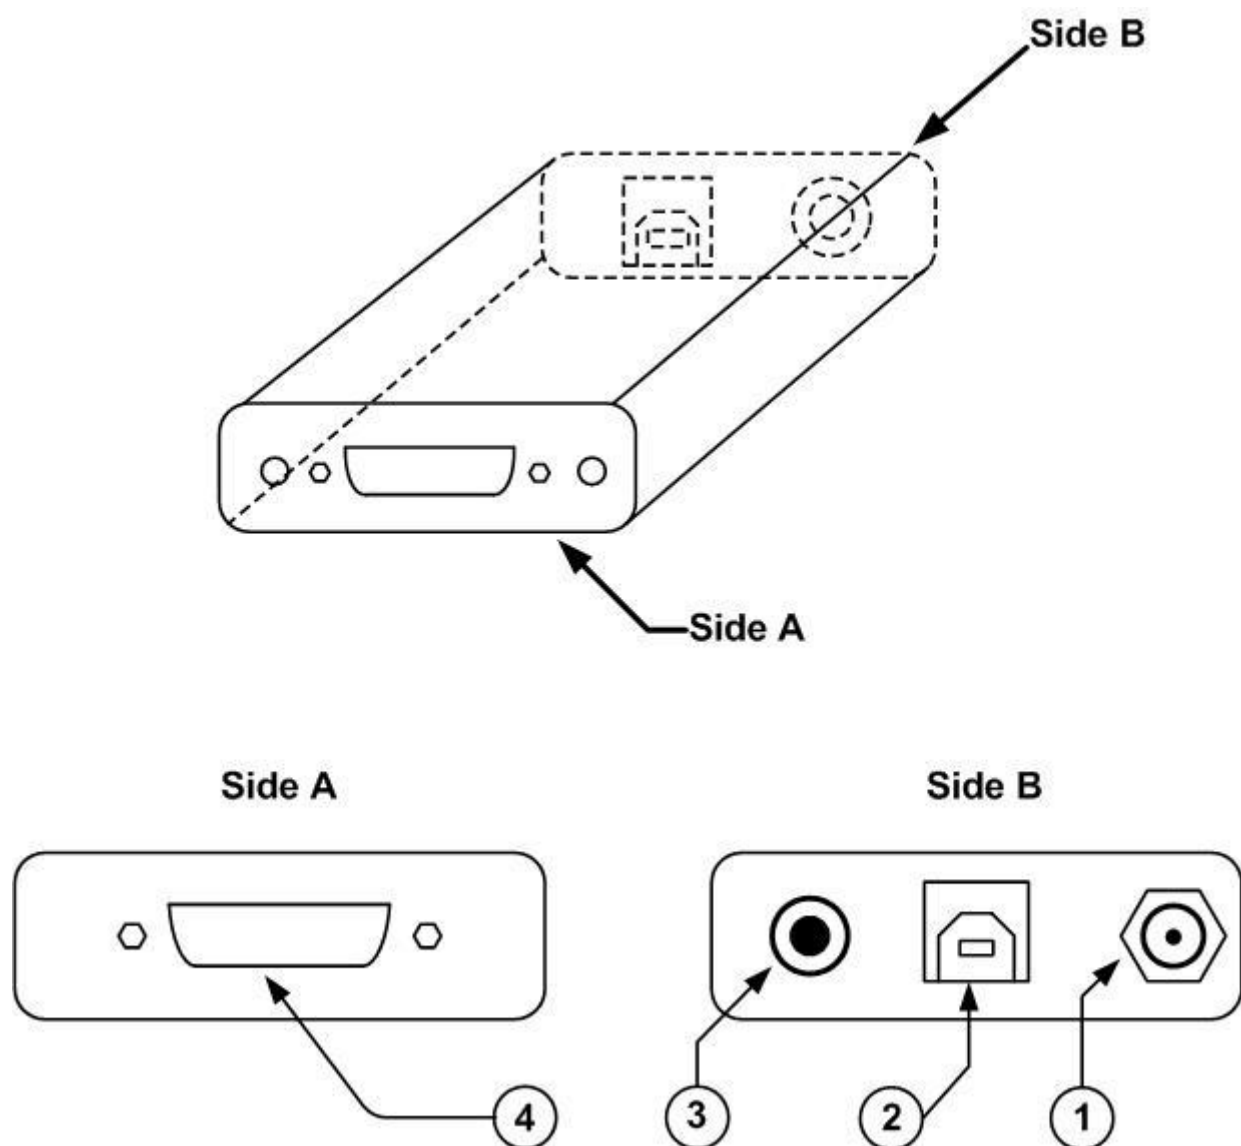

Fig. 3-1 P-LINK Top Panel
3 Front Panel Description : See figure 3-1 below
- 3- Connect a version 5 (or higher) power or energy detector head to the P-LINK using the **PROBE INPUT JACK** (see Fig. 3-1) while the P-LINK is disconnected from the PC.